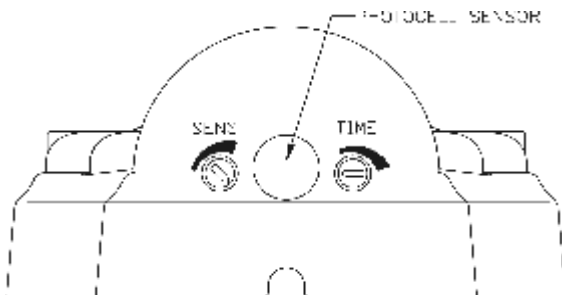

FIGURE 12
(1) TEST MODE
- Make sure that the black label is stuck on photocell sensor (FIGURE 12)